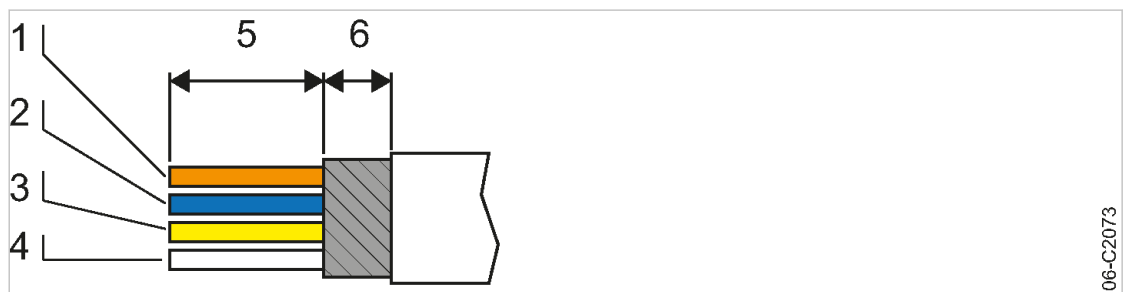

Fig. 4 Strip the isolation from the network cable
1. Stripping the network cable isolation (see Fig. 4).
2. Spread the conductors according to the color coding of the contact element of the RJ45 connector (see Fig. 4).